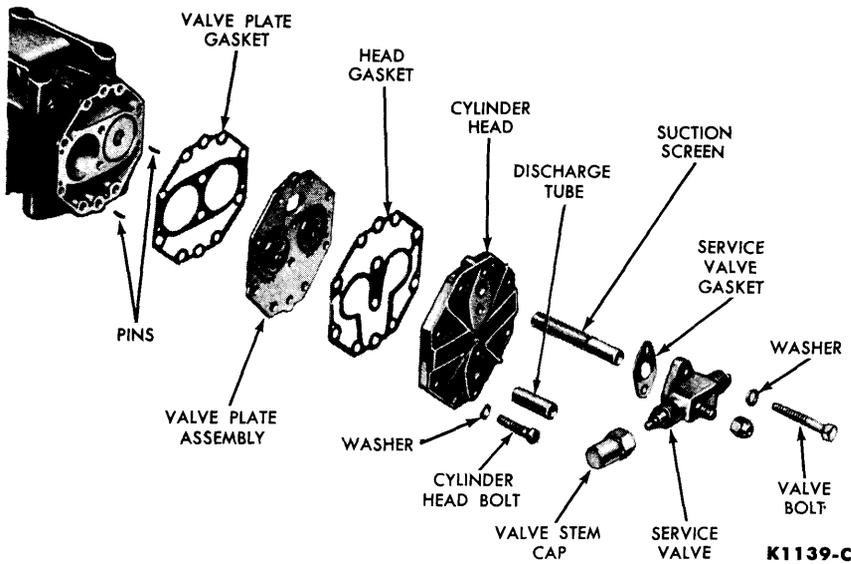

FIG. 25—York Cylinder Head and Valve Assembly
2. Tap the cylinder head and valve plate lightly to loosen them, and remove these parts from the top of the compressor body (Figs. 25 and 26). **Be careful not to shear off the valve plate locating pins.**
replacement kit which includes the valve plate, valve leaves, and the 2 gaskets (Figs. 25 and 26).
6. Starting with the valve plate gasket, assemble the parts in the order shown in Figs. 25 and 26. Insert the cylinder head bolts carefully to avoid damaging the gaskets.
Install the necessary replacement parts as shown in Figs. 25 and 26. If the strainer in the low pressure service valve fitting is not being replaced, clean it before installation.